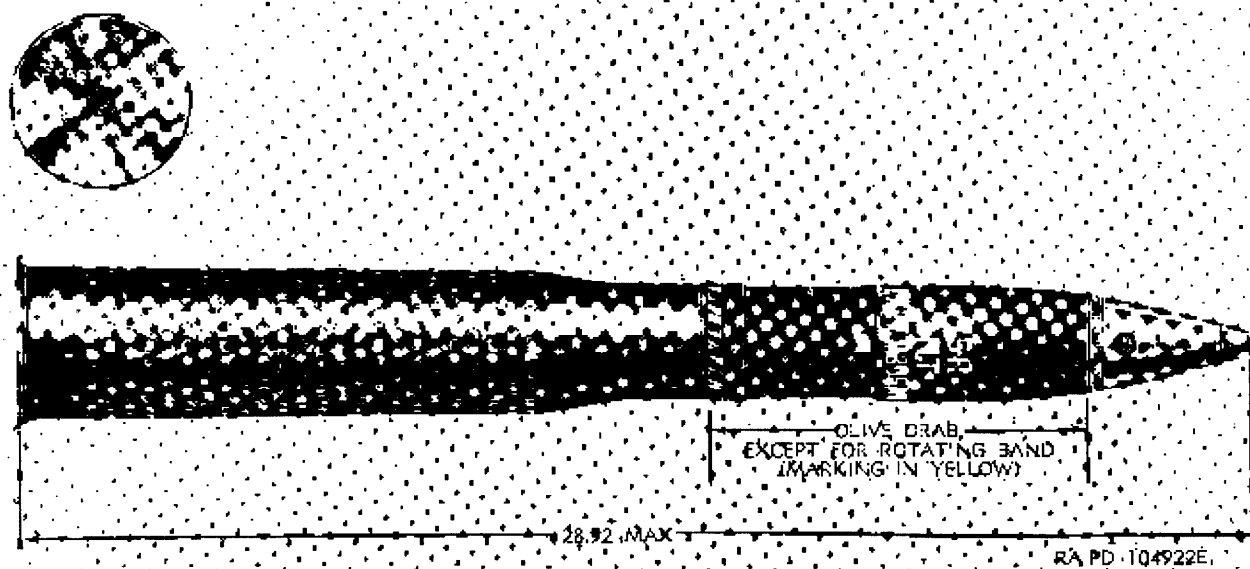

Figure 9. Cartridge, 75 millimeter: HE, M310A1, w/fuze, PD, M51A5, 0.05-sec delay.
ridge case and the preengraved rotating band on the projectile. Painting and marking for identification are in accordance with the basic color scheme prescribed in TM 9-1900. See also figures 9 through 12.
*a. General.* This cartridge (fig. 9) is intended for blast and fragmentation effect. The plastic-lined cartridge case M31A1 is crimped to the high-explosive projectile by means of four equally spaced ball-point crimps. The projectile consists of a relatively thin-walled steel body containing a 1.49-pound bursting charge